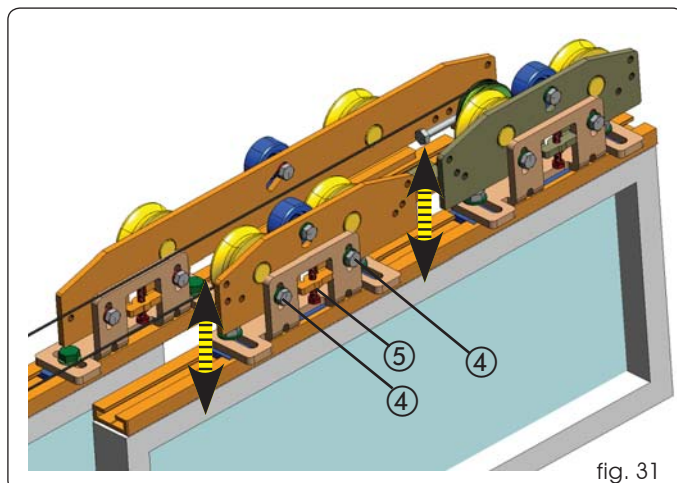

fig. 31
- Slightly loosen the two screws M6 - fig.31 ref.④.
- Turn the screw (fig.31 ref.5 clockwise to raise the leaves or anti-clockwise to lower them.